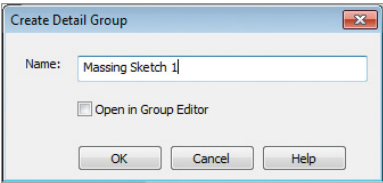

FIGURE 7.11 Create Detail Group dialog
- 2. When the Create Detail Group dialog opens, name the group **Massing Sketch 1**, as shown in Figure 7.11, and click OK.